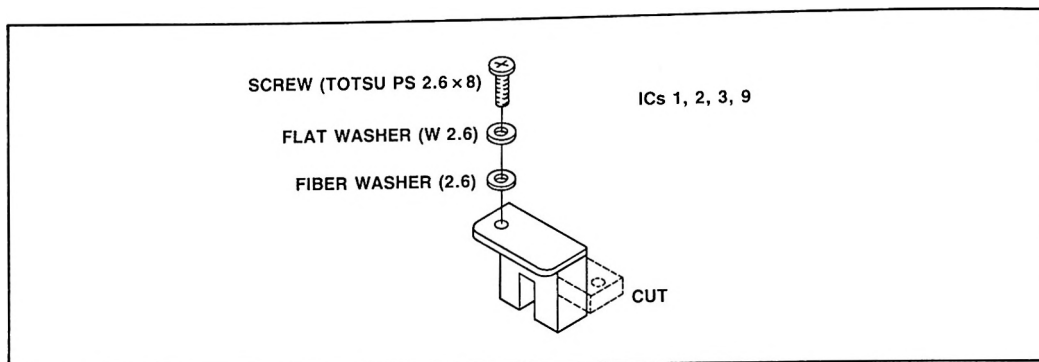

Figure 1
2. IC1, 2, 3 and 9 require an additional fiber washer to insulate the new mounting board from ground. (See Figure 1.)